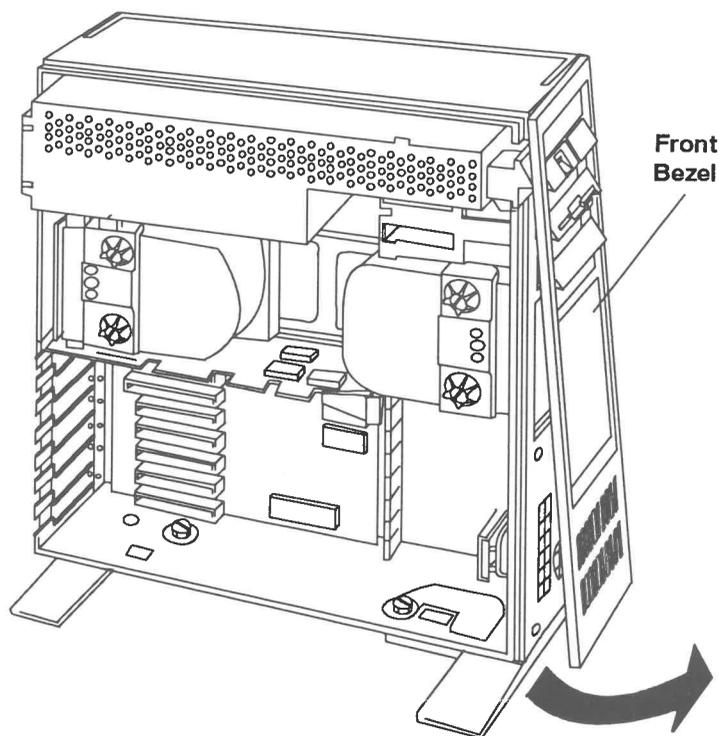

Figure 2-4 Front Bezel Removal/Installation
1. If you do not have a hard disk drive mounted in the front drive bay, skip to step 5. If there is a hard disk in the front drive bay, remove the front bezel by pulling it away from the chassis as shown in Figure 2-4.
18. If you removed the front bezel, install it at this time (see Figure 2-4).